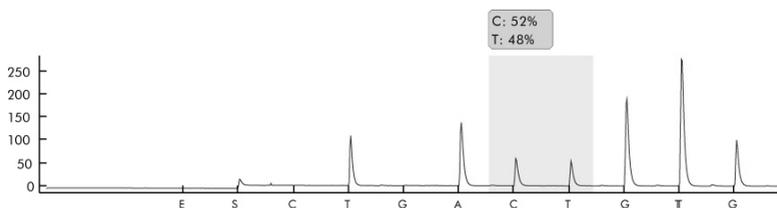

Figure 3. Pyrogram of Run 1.
29. Open the run in the ▲ PyroMark Q24 Software or the ■ PyroMark Q24 Advanced Software and analyze all wells. The peak pattern for Run 1 should look like the one in Figure 3.